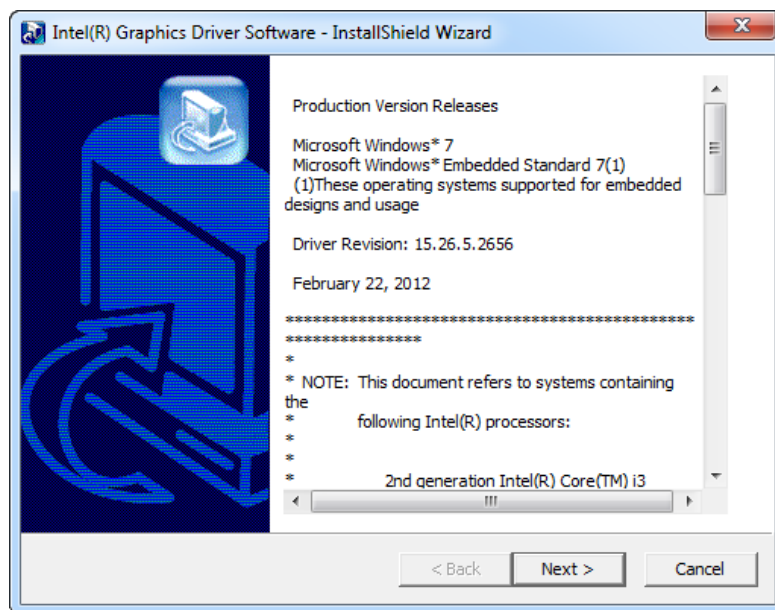

Figure 8-8: Graphics Driver Read Me File
Step 4: The **Read Me** file in **Figure 8-8** appears.